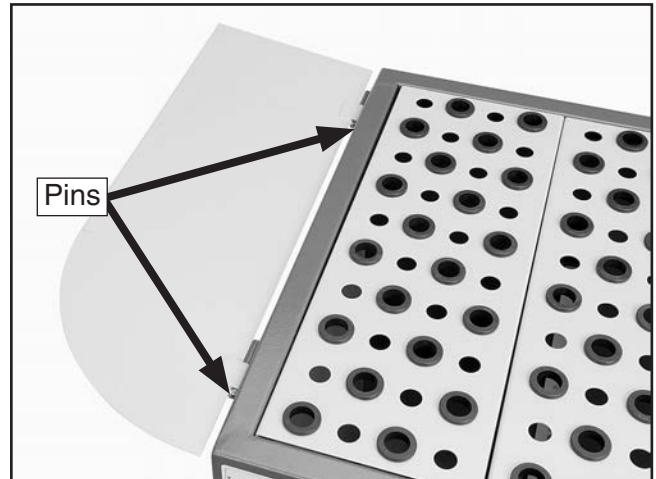

Figure 10. Left panel installed.
8. Secure the right and left panels with the remaining pins, as shown in **Figures 10 & 11**.